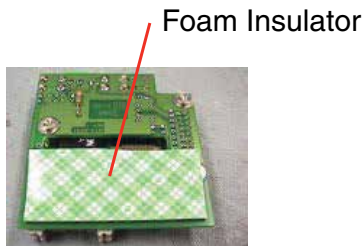

Figure G-3. Installing Foam Insulator on LonWorks Interface Board
- Install the self-adhesive label as shown in Figure G-3.